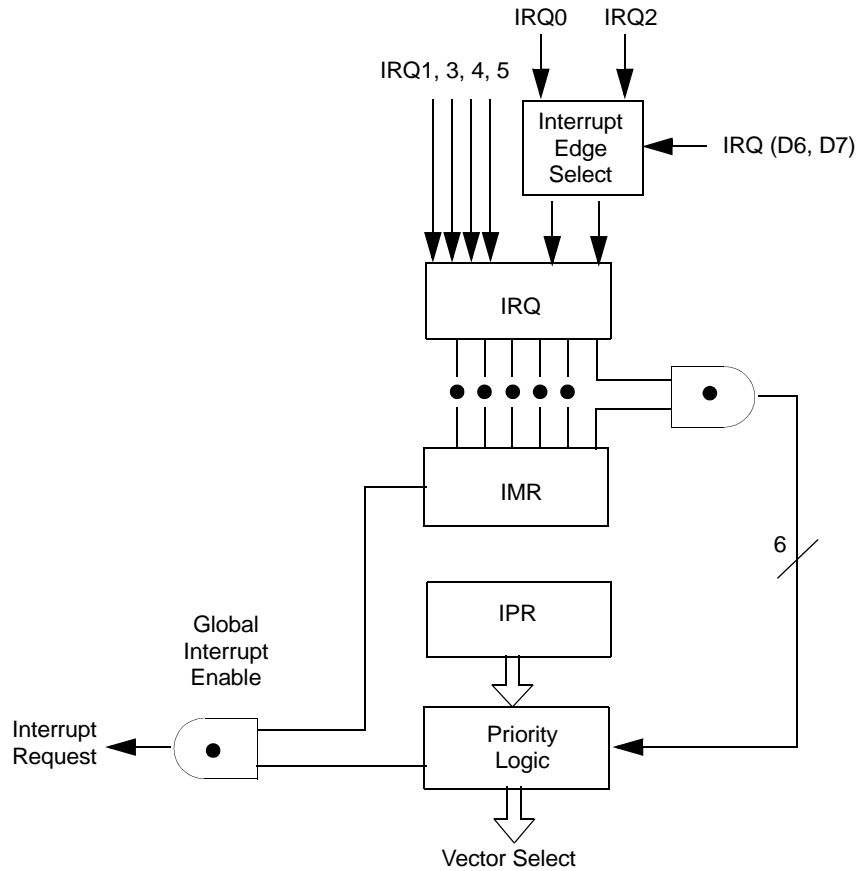

Figure 28. Interrupt Block Diagram
**Interrupts.** The MCU has six different interrupts from six different sources. The interrupts are maskable and prioritized (Figure 28). The six sources are divided as follows: four sources are claimed by Port 3 lines P33-P30) and two in counter/timers. The Interrupt Mask Register globally or individually enables or disables the six interrupt requests (Table 20).